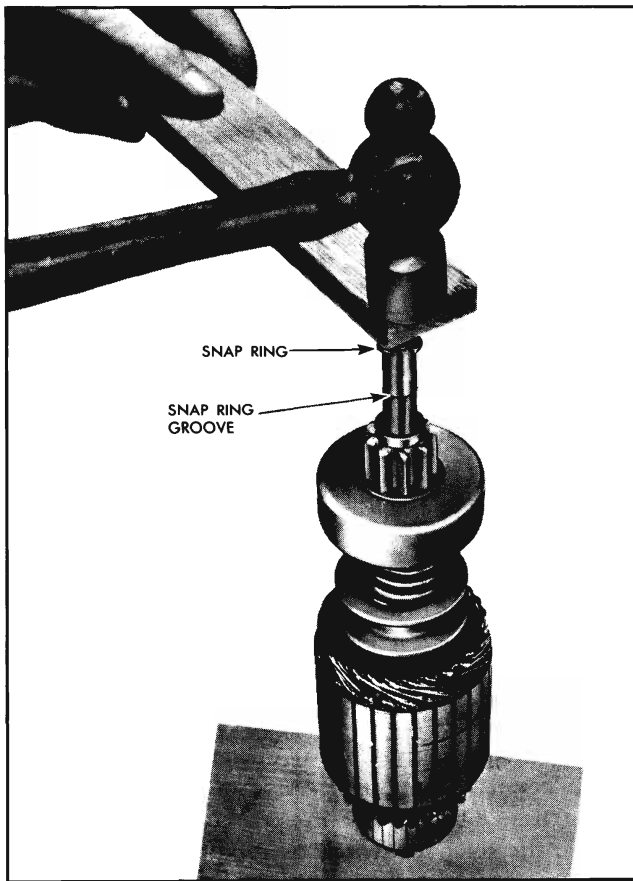

Fig. 11-11 Forcing Snap Ring onto Armature Shaft
d. Stand armature on end on wood surface with commutator down. Position snap ring on upper end of shaft and hold in place with a block of wood. Hit wood block a blow with hammer forcing snap ring over end of shaft. Slide snap ring down into groove (Fig. 11-11).